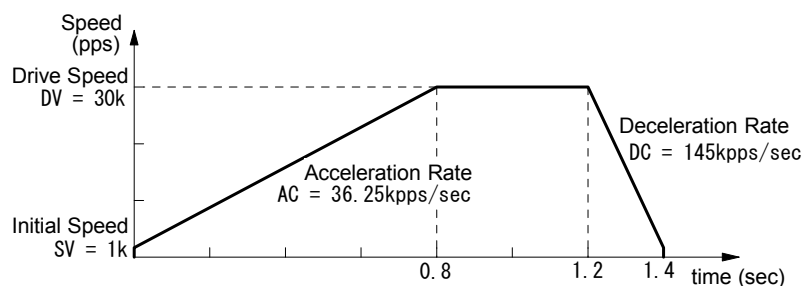
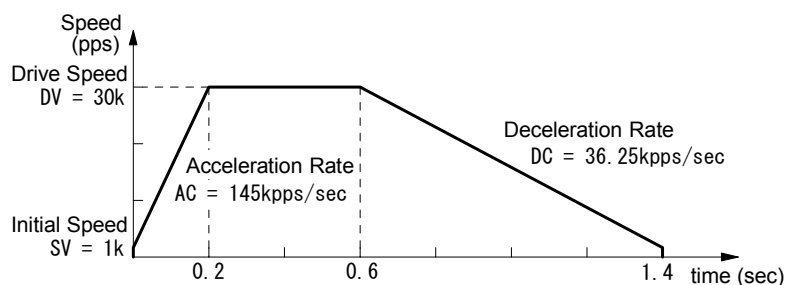

Fig. 2.2-6 Non-Symmetrical Linear Acceleration Driving (acceleration < deceleration)
Fig. 2.2-7 Non-Symmetrical Linear Acceleration Driving (acceleration > deceleration)
This IC can perform automatic deceleration in non-symmetrical linear acceleration/deceleration fixed pulse driving where acceleration and deceleration are different. It is not necessary to set a manual deceleration point by calculation in advance. Fig. 2.2-6 shows the case where the deceleration is greater than the acceleration and Fig. 2.2-7 shows the case where the acceleration is greater than the deceleration. In such non-symmetrical linear acceleration, the automatic deceleration start point is calculated by the IC based on the number of output pulses in fixed pulse driving and each rate parameter.
- In non-symmetry linear acceleration/deceleration driving, when acceleration > deceleration (Fig. 2.2-7), the following condition is applied to the ratio of acceleration and deceleration.
- In non-symmetry linear acceleration/deceleration driving, if acceleration > deceleration (Fig. 2.2-7), the greater the ratio of acceleration AC to deceleration DC becomes, the greater the number of creep pulses becomes (about maximum of 10 pulses when AC/DC=10 times). When creep pulses cause a problem, solve the problem by increasing the initial speed or setting a minus value to the acceleration counter offset.
As shown in Fig. 2.2-6, parameter setting of relative position driving in non-symmetrical linear acceleration/deceleration (acceleration < deceleration) is shown below.